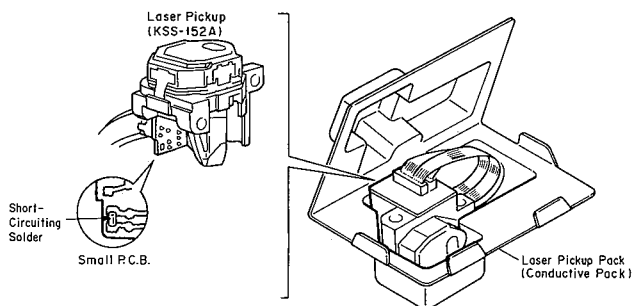

Fig. 2.9.5
**Note:** As a Laser Pickup is packed in a conductive pack as shown in Fig. 2.9.5, do not take it out of the pack until you need it.